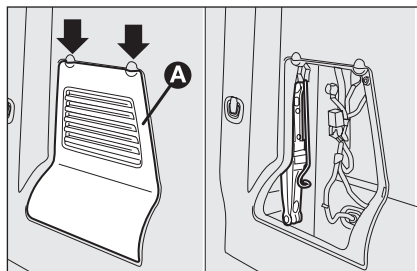

fig. 2
- ☐ On certain versions to take the jack you have to open the protection lid **A**-fig. 2;